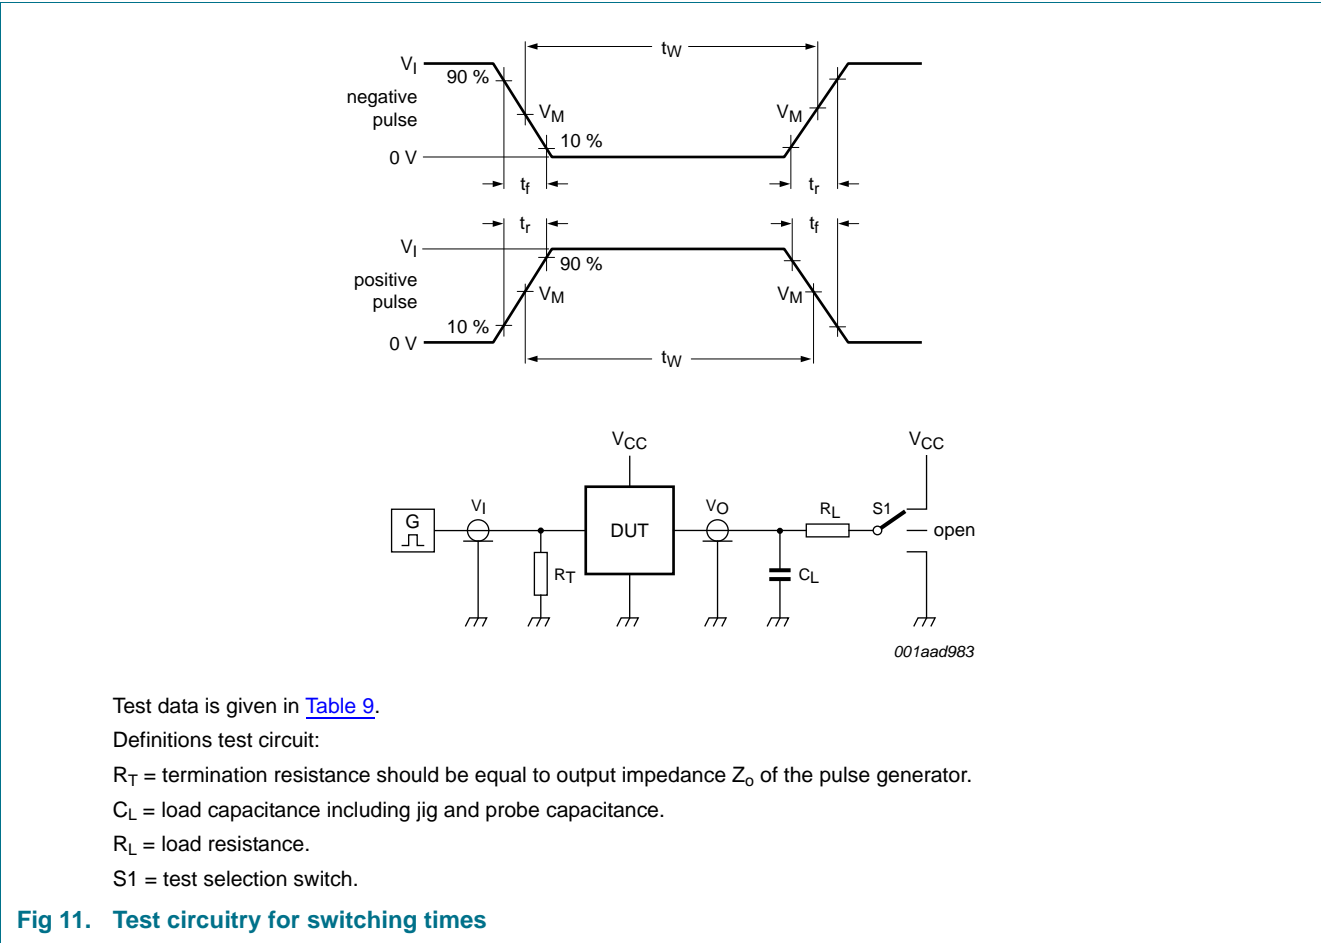

Fig 11. Test circuitry for switching times
Voltages are referenced to GND (ground = 0 V); for test circuit see Figure 11.
**Table 7. Dynamic characteristics ...continued**Voltages are referenced to GND (ground = 0 V); for test circuit see Figure 11.